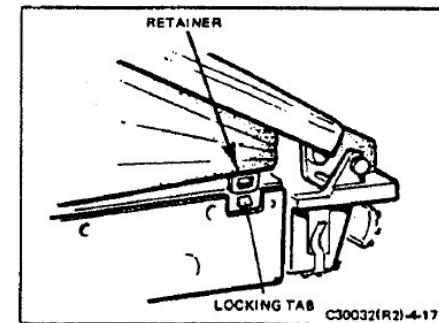

FIGURE 4-17 BOOT RETAINER
- Snap the boot retainer over the tabs on the inner frame (see Figure 4-17).